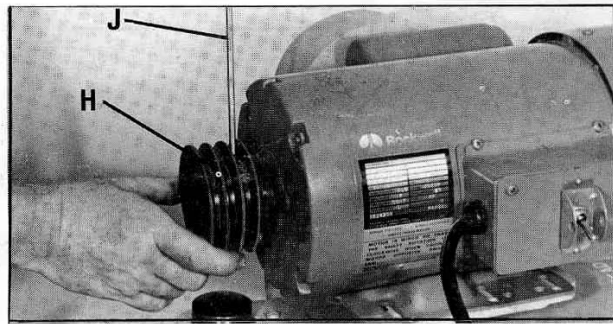

Fig. 13
3. Assemble motor pulley (H) to motor shaft, as shown in Fig. 13. Make sure key is inserted into keyway of motor shaft and motor pulley and tighten two screws in motor pulley using allen wrench (J).